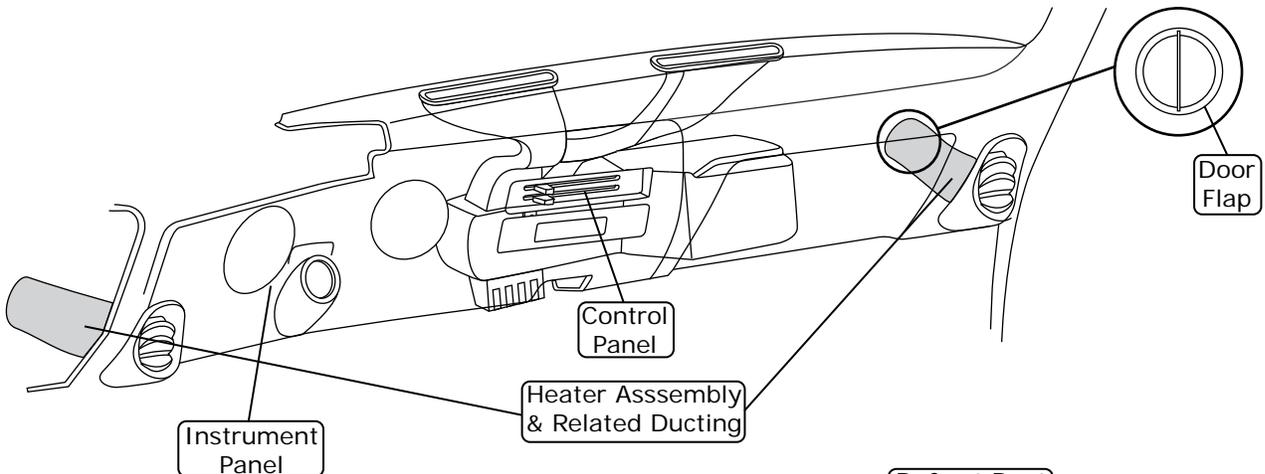

Figure 1
10. Remove the passenger-side kick panel/fresh air door assembly as shown in Figure 1, Page 8.